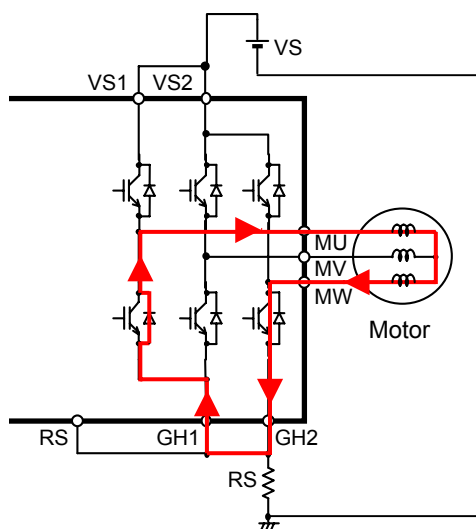

Fig. 5-4. Example to Reflux current
- This function is not effective for currents that do not flow forward through the shunt resistor, such as reflux current and power regenerative current (see Figs. 5-4 and 5-5). In practice, users are requested to observe and check the output currents (the coil currents of the motor) of the IC.